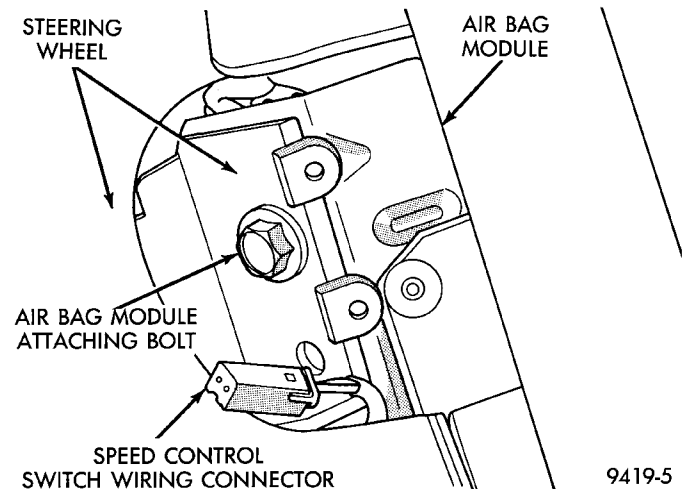

Fig. 9 Air Bag Module Mounting Bolts
(6) Remove the 2 fasteners, 1 on each side of steering wheel, attaching the air bag module to the steering wheel (Fig. 9).